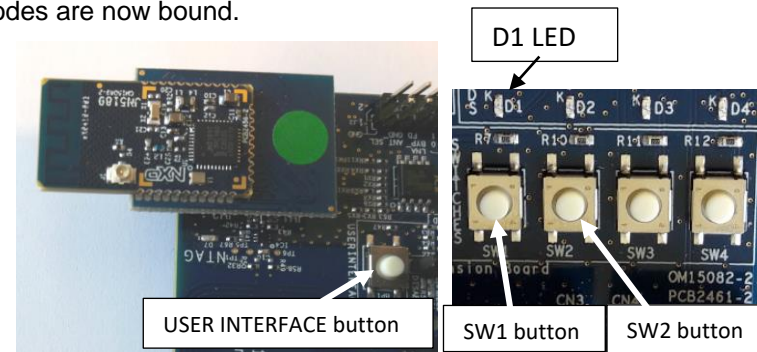

Figure 4: USER INTERFACE button on DK6 board and SW1, SW2 buttons on generic switch expansion board
- a. **Light node:** Press and release the USER INTERFACE button as shown on figure 4. The 3 white LEDs will start to flash.